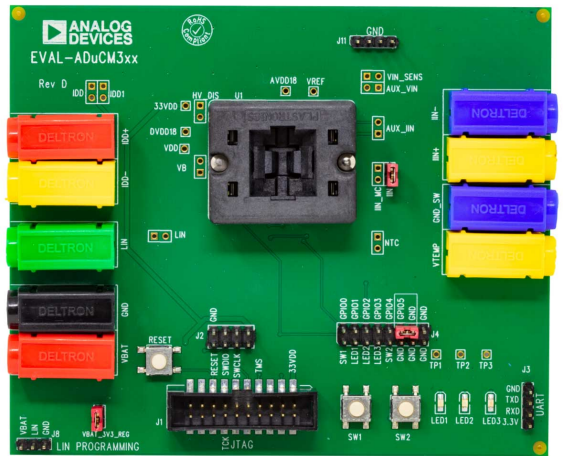

Figure 1. EVAL-ADuCM342EBZ Socketed Evaluation Board Setup
4. Ensure that the board jumpers are in position, as shown in Figure 1.